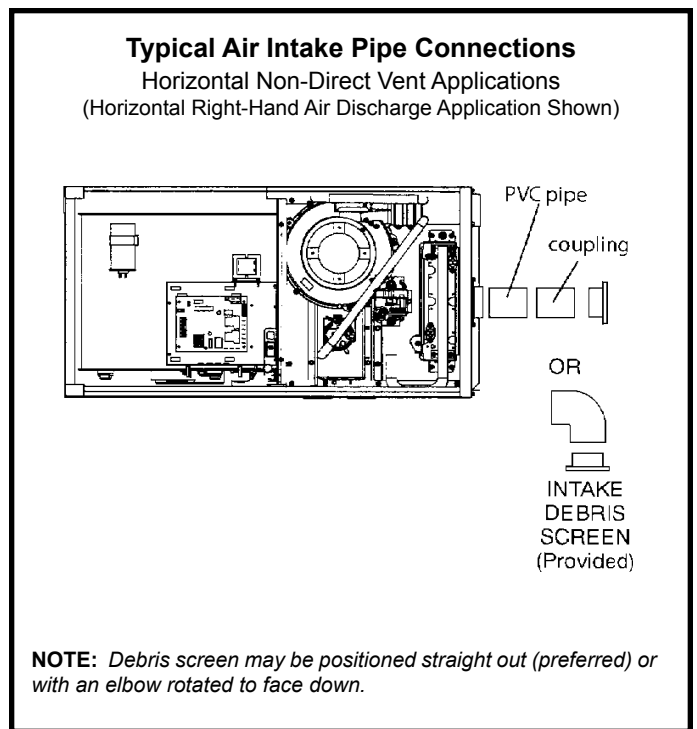
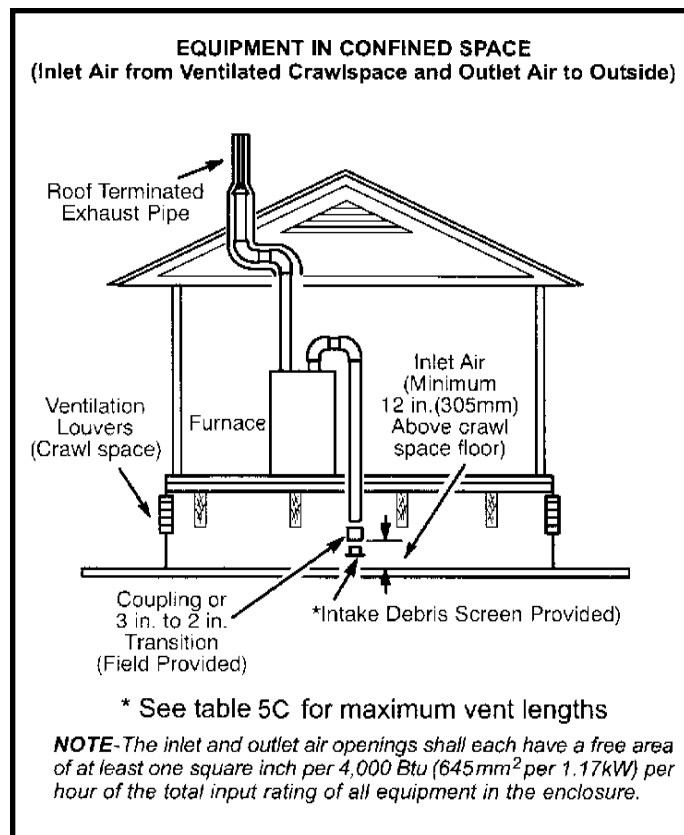

Figure 28
Figure 30
2. If intake air is drawn from a ventilated attic (Figure 28) or ventilated crawlspace (Figure 30) the exhaust vent length must not exceed those listed in Table 5C. If 3" diameter pipe is used, reduce to 2" diameter pipe at the termination point to accommodate the debris screen.